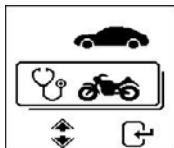

Fig.26
- While on the main menu as shown in Fig.26 below, select  for Motorcycle Battery test.